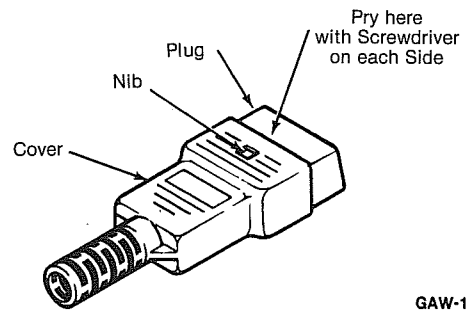

Figure 18
(1) With a screwdriver pry the cover clear of the nib on each side (Figure 18). Pull the plug out of the cover.